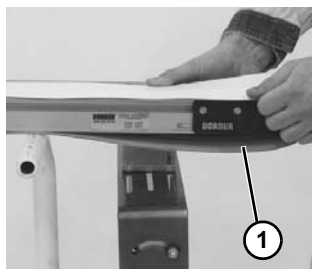

Figure 35
5. Remove belt (**Figure 35, item 1**) from conveyor.